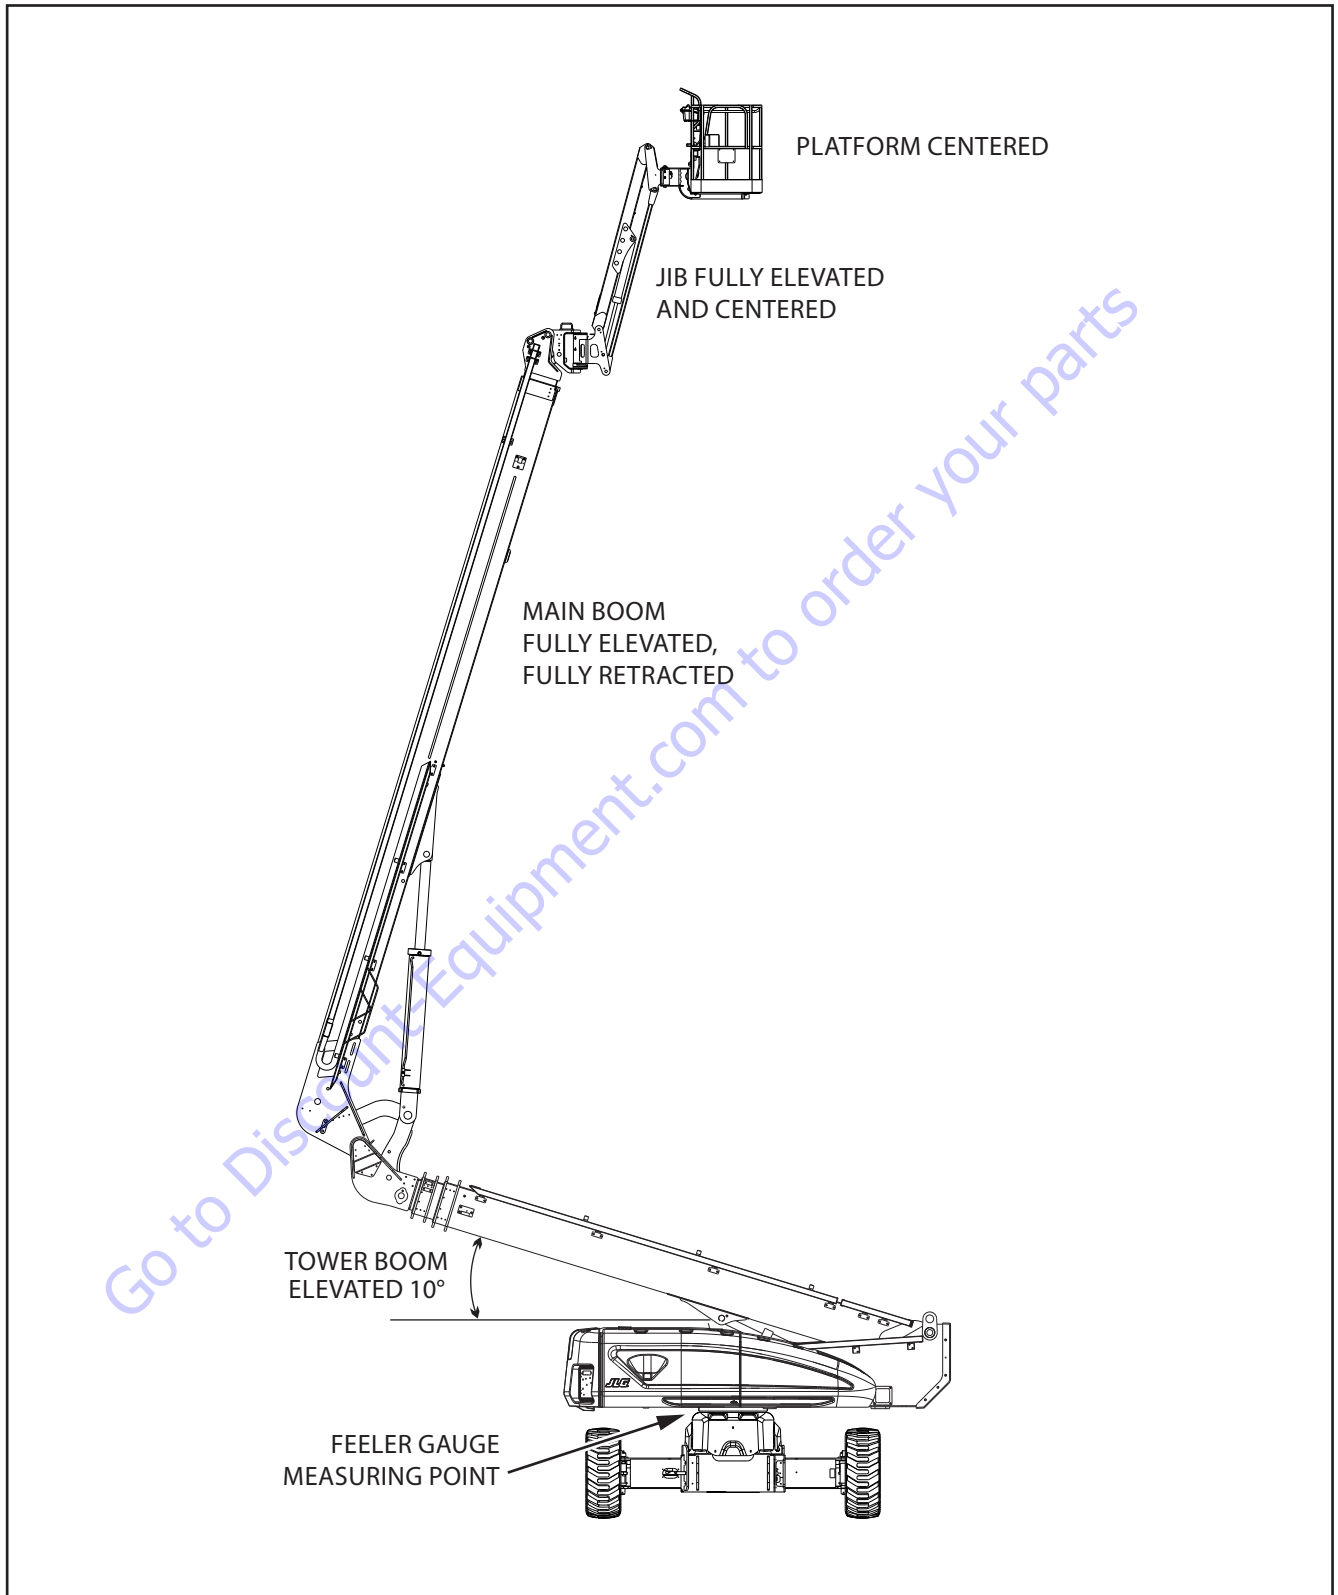

Figure 3-69. Turntable Bearing Service Boom Placement - 2
- a. Raise main boom to be fully elevated and retracted. Raise Tower boom 10° or enough to gain access to bearing bolts. Raise jib to be fully elevated and centered. Center platform and keep it unloaded. (See Figure 3-69.)
- b. At position indicated on Figure 3-69., try to insert a 0.0015 in (0.038 mm) feeler gauge between turntable side bearing bolt and hardened washer.